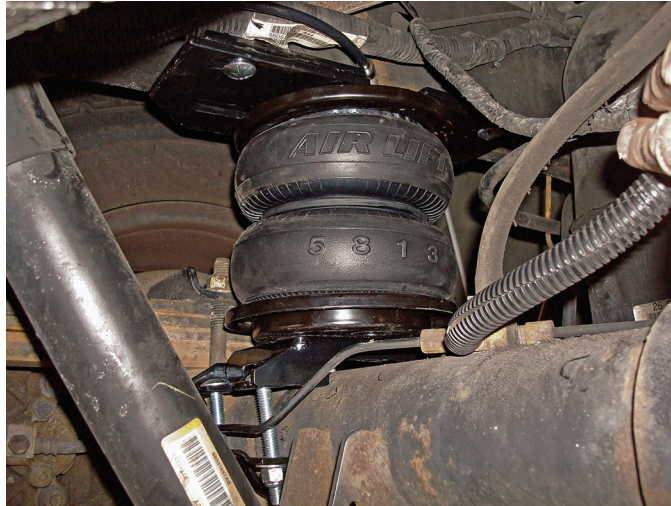

fig. 22
3. Figure 22 shows an inside rear view of the left (driver) side assembly.